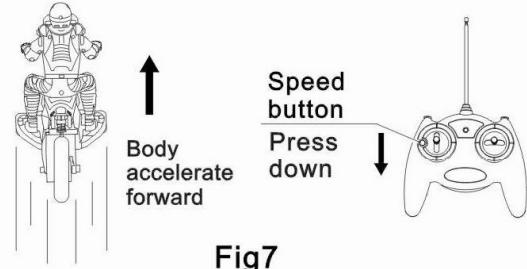

Fig7
2. When the body moving forward, press the "speed button", body speed driving. (Figure 7)